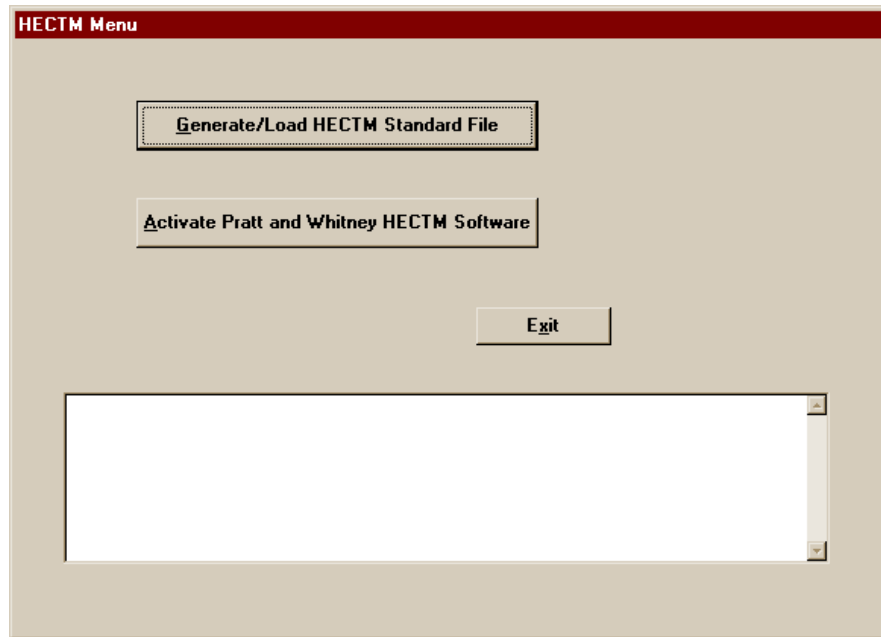

Figure 55. Generate/load HECTM Standard File Screen
3. Press OK. The HECTM™ Menu screen will appear (refer to Figure 55).